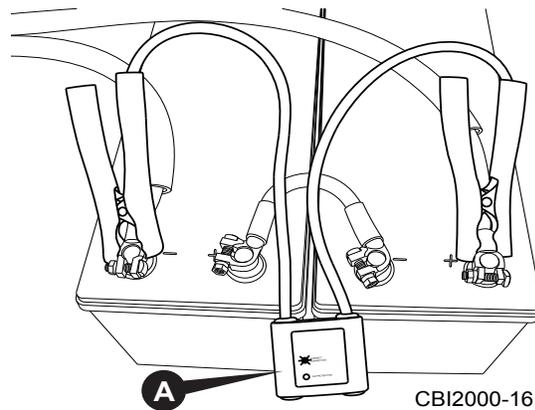

Figure 6.63 - Mount Surge Protector Across Battery Terminals
6. Mount Surge Suppressor - Mount the Terex surge protector (part number 81010086) across the battery terminals for both batteries (Figure 6.63 / A). If the surge protector is hooked up properly, the status LED will glow green.